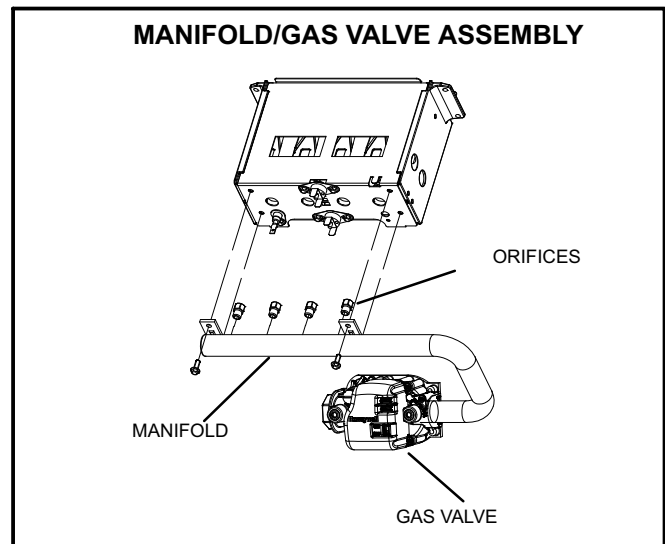

FIGURE 1
- 4 - If necessary, remove the wires from the ignitor and sensor. Mark the wires as you remove them. Remove the burner box cover (if equipped). Remove the four manifold securing screws. Slide the manifold/gas valve assembly out of the burner box. See figure 1.
- 5 - Replace the burner orifices with the provided gas orifices. Torque to approximately 35 in-lbs. Do not use sealant on the orifices. Figure 1 shows the manifold/gas valve assembly.